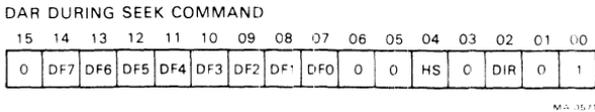

Figure 7 DAR Seek Command
*DAR During a Seek Command* – To perform a seek function, it is necessary to provide address difference, head select, and head directional information to the selected drive as indicated in Figure 7. The word format is described in Table 4.